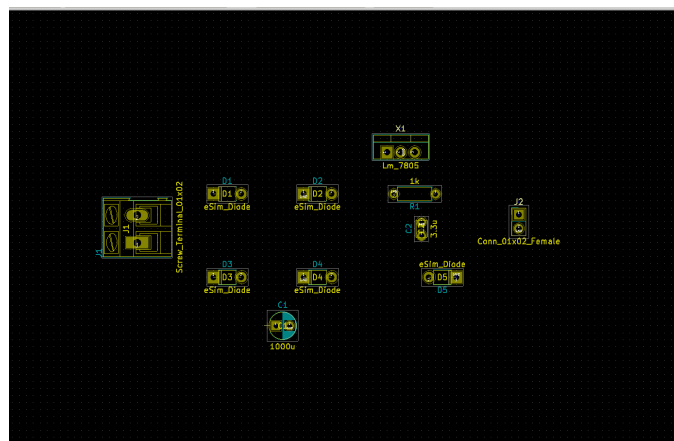

Figure 12.16: All footprints moved and rotated
7. Using similar methods, we have moved and rotated all other footprints as shown in Fig. 12.16